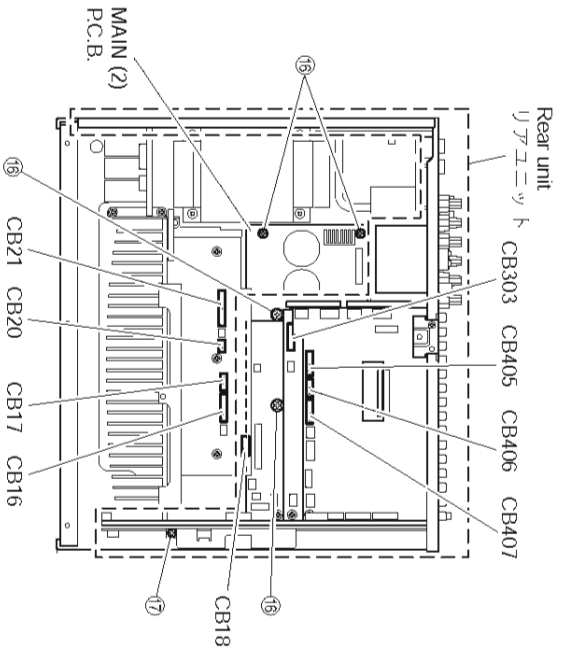

Fig. 8
- b. Remove 4 screws (16) and screw (17). (Fig. 8)
- c. Remove screw (18). (R, K, A, L models) (Fig. 8)
- d. Remove CB16-18, CB20, CB21, CB303, CB405, CB406 and CB407. (Fig. 8)
- e. Remove the rear unit and MAIN (2) P.C.B. (Fig. 8)
- b. ⑯のネジ4本、⑰のネジ1本を外します。(Fig. 8)
- c. CB16-18、CB20、CB21、CB303、CB405-407を外します。(Fig. 8)